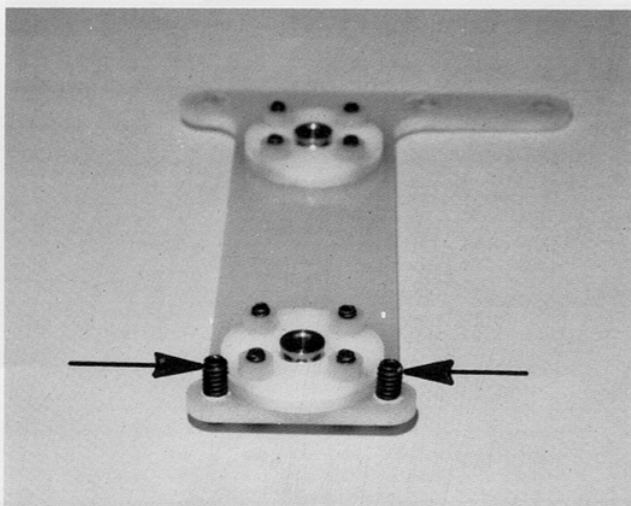

Fig. 16
□ **Fig. 16**—The two set screws you've just installed are called the **TWEAK SCREWS**. These are **VERY IMPORTANT**. We'll be coming back and adjusting these after the car is completely assembled.